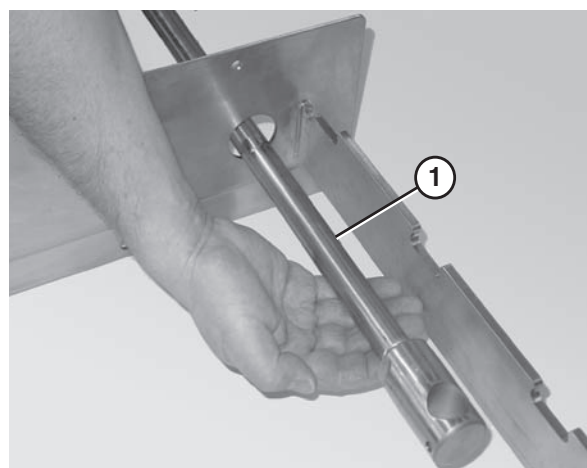

Figure 17
1. Slide the tip up shaft (Figure 17, item 1) through the designated slots in the frame.